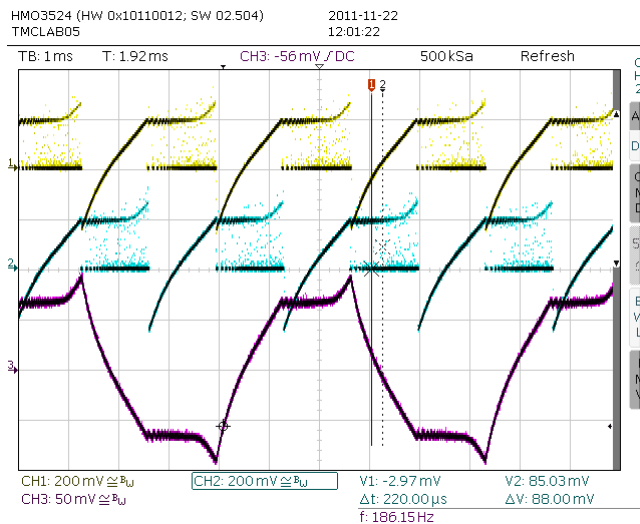

figure 6: Motor operation in fullstep with slow decay only (CHM=1)
3. As fullstepping does not require high precision chopper operation, you can try to switch to slow decay only chopper – compare figure 6, e.g. by setting *vhighchm* (for TMC562 based drivers).